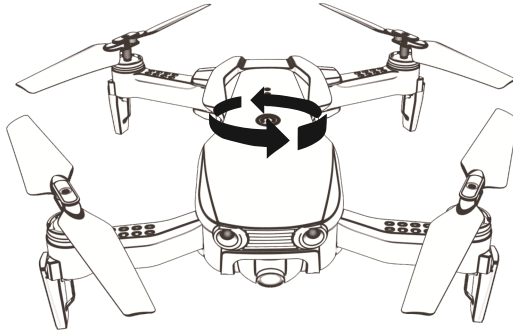

Figure 1
Step 1: Horizontal calibration of the compass(Figure 1)